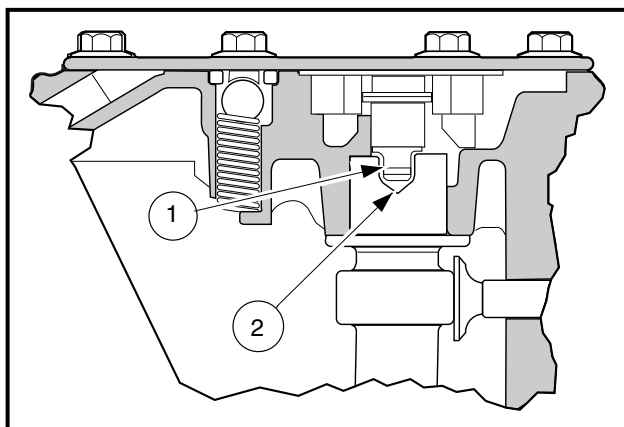

Figure 2-96 Proper Seating of Tang into Camshaft
- When installing the camshaft, make sure that the tang (1) on the oil pump rotor seats in the slot (2) in end of the camshaft (Figure 2-96, Page 2-42). If the oil pump tang is not seated in the slot in the camshaft, serious engine damage will result.